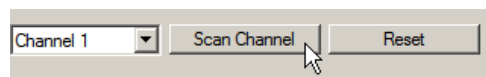

Figure 71: LINX Configurator software, scan DALI Channel.
2. Select the DALI channel and click on the **Scan Channel** button shown in Figure 71.